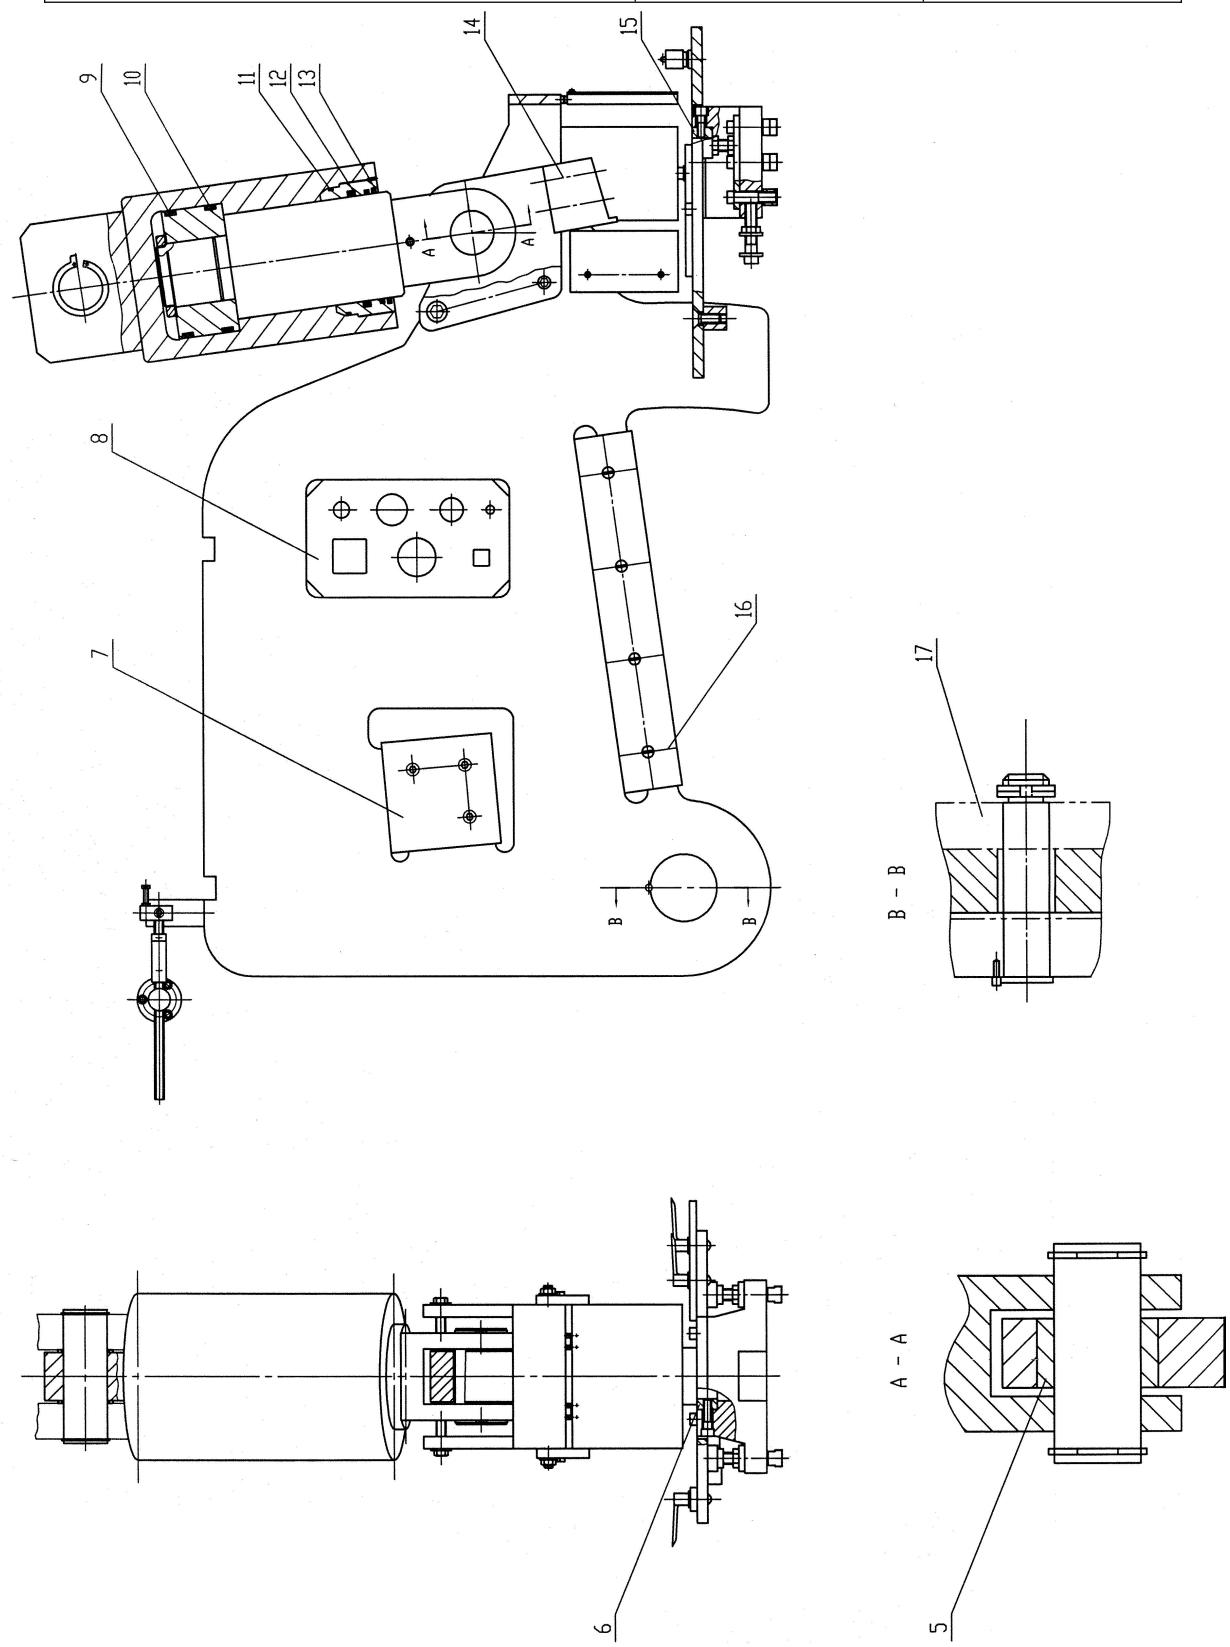

Fig. 2
2) Section Cutting Station (Fig.2)